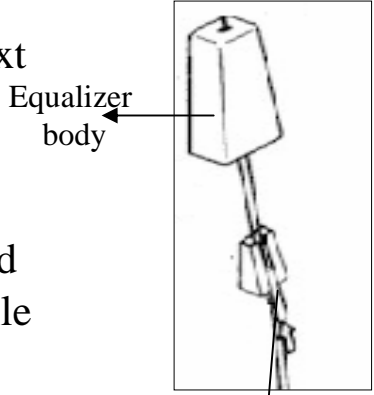

FIGURE 3
- In all systems, take the new equalizer, and snap the wedge piece away from the body piece. Slip the cords into the equalizer body, with the small end of the body toward the cord lock. Position the equalizer body about 1" below the point where you want the bottom rail to be when the shade is closed. Then slide the wedge into the body from the bottom (Figure 3). Do not lock the wedge completely into position; the equalizer should remain partially installed until you perform the next step.